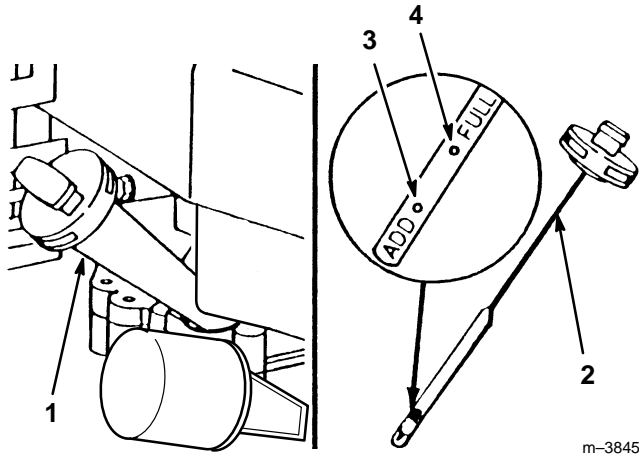

Figure 8
Fill crankcase with SAE 30 or 10W30 oil until oil level reaches FULL mark on dipstick as shown in (Fig. 8). The maximum crankcase capacity is 26 ounces (0.77 liters) of oil with the oil filter installed and 22 ounces (0.65 liters) without the oil filter installed. Use any high quality detergent oil having the American Petroleum Institute (API) "service classification" — SF, SG, SH or SJ.
Before each use, ensure oil level is between ADD and FULL marks on dipstick (Fig. 8). Add oil if level is low.
3. Wipe dipstick and insert it into filler neck. Rotate cap clockwise 1/4 turn. Then remove dipstick and check level of oil (Fig. 8). If level is low, add only enough oil to raise level to FULL mark on dipstick. **DO NOT FILL ABOVE FULL MARK BECAUSE ENGINE COULD BE DAMAGED WHEN STARTED. POUR OIL SLOWLY.**
1. **CHECK OIL LEVEL**—Maintain oil level between ADD and FULL marks as shown on dipstick (Fig. 8).